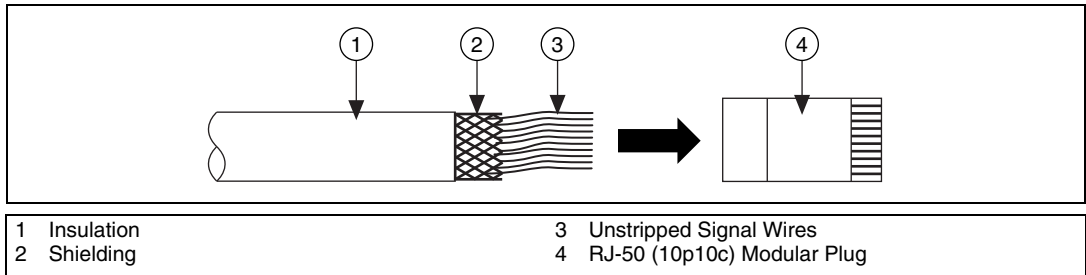

Figure 7. Inserting Signal Wires into RJ-50 (10p10c) Modular Plug
6. Insert the wires into the RJ-50 (10p10c) modular plug as shown in Figure 7.